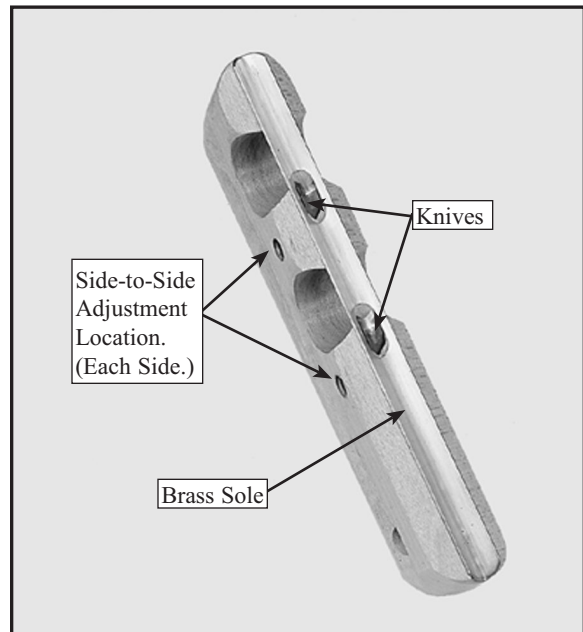

Figure 2. The underside of the slickplane. The side-to-side adjustment locations are shown.
4. Each cutter is also adjustable from side-to-side and can be centered on the brass sole by adjusting the Allen setscrews on each side of the cutters. (See Figure 2.)